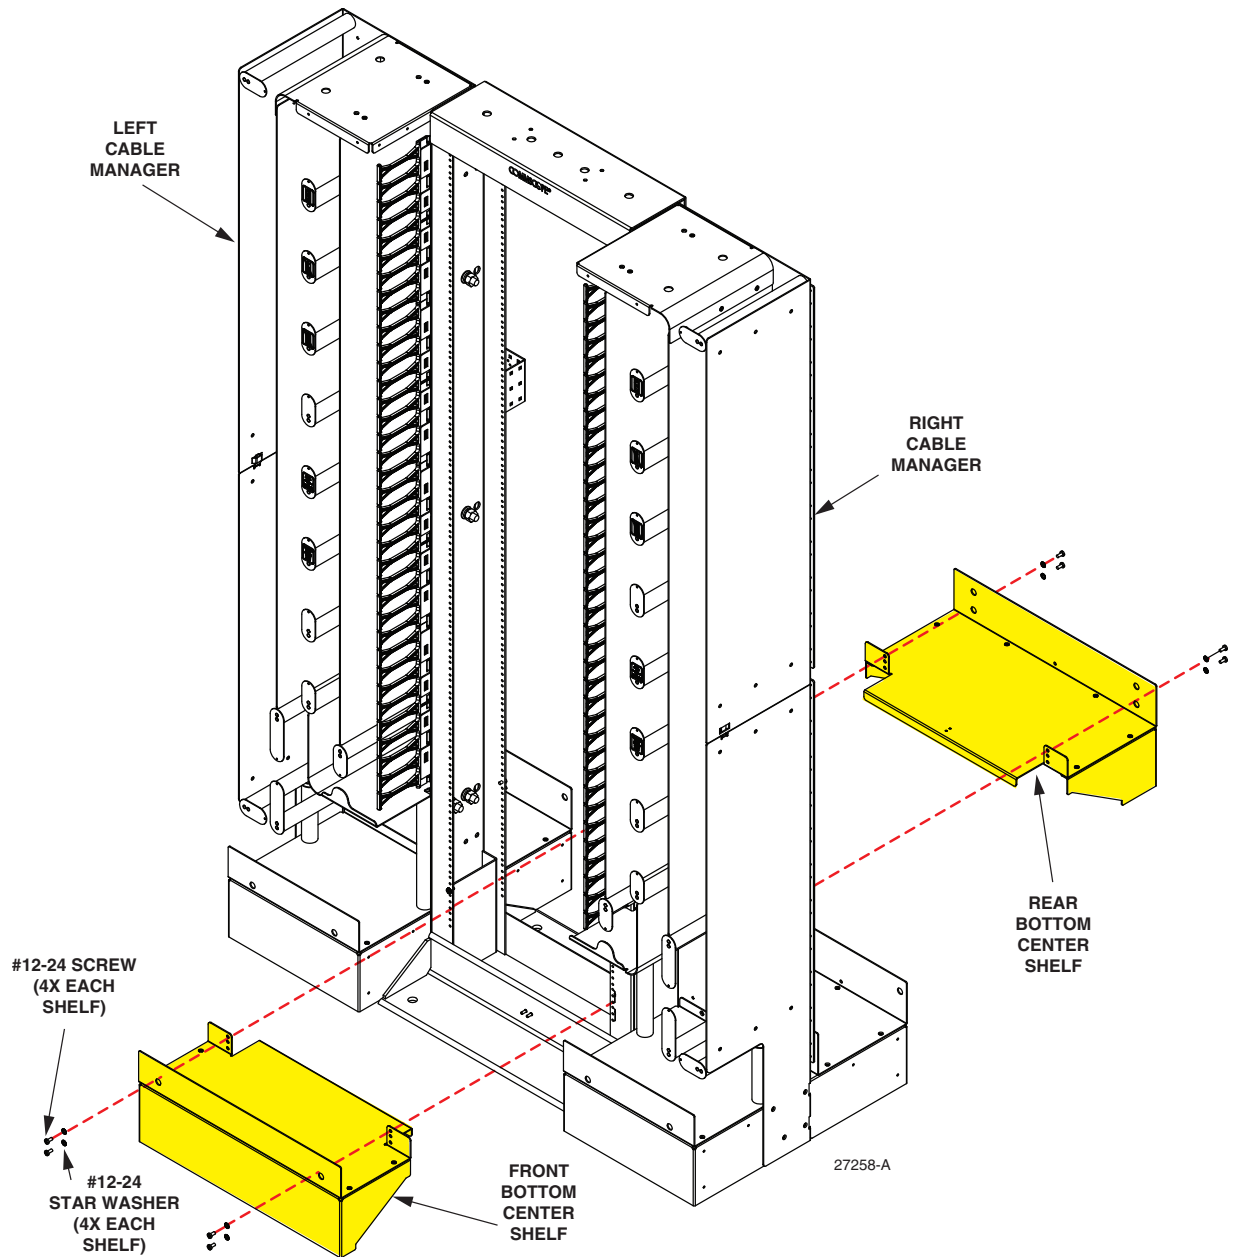

Figure 16. Installing the Middle Shelves
2. Fasten the front bottom middle shelf to the front of the Flex Rack, using four #12-24 screws and star washers, as shown in Figure 16. Fasten the rear bottom middle shelf to the rear of the frame in the same manner.